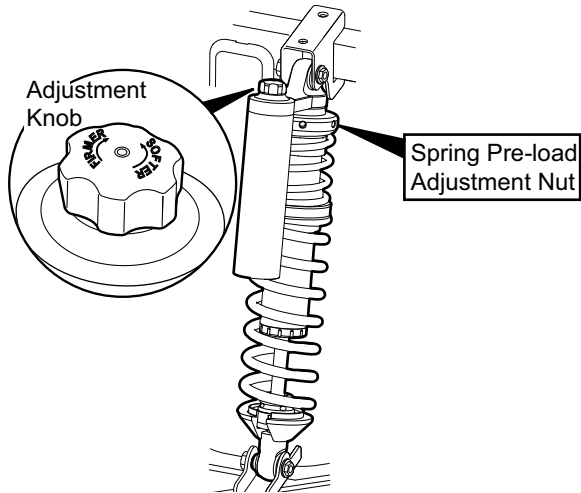

Fig. 33 Compression Adjustment
- Roll the vehicle forward 10 feet (3 meters). Measure the center tread distance at the front of the tires (Ref. Fig. 33). Measure as close to parallel with the front lower frame of the vehicle as possible.
To adjust, rotate the adjustment nut (Ref. Fig. 33):